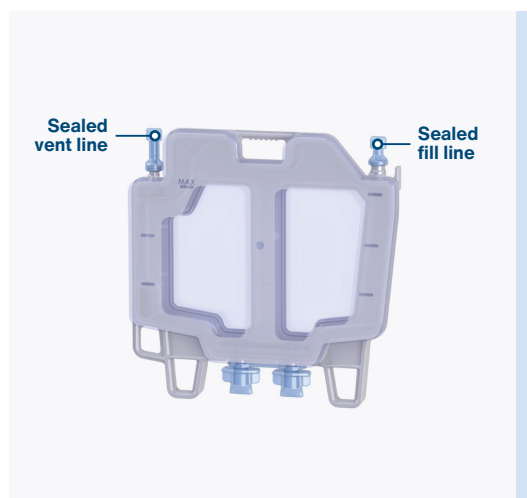

Figure 3: Sealed CellSeal CryoCase.
Using standard radio frequency (RF) sealing techniques, seal the overmold portion of the fill line and the vent line as shown in **Figure 3**. Use scissors to carefully remove the excess vent and fill line components so that the filled cassette appears as shown in **Figure 3**. Dispose of the removed components according to standard procedures.